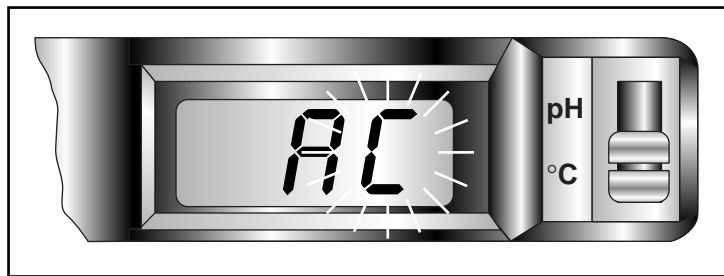

Figure 5-3. Temperature Code - Second Character Blinking
6. The second character should now be blinking. Refer to Figure 5-3. If it is not, press the "SET" button until it does.